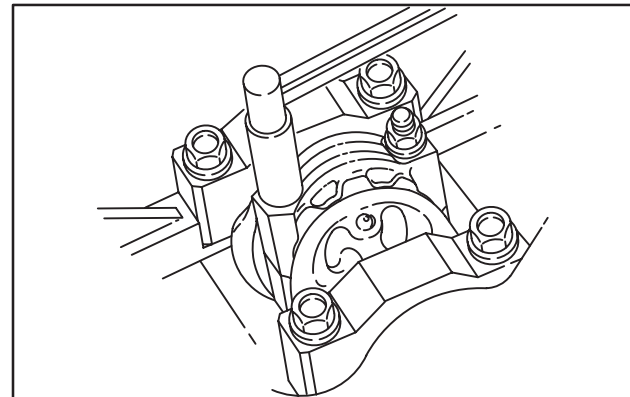

Fig. 8 – Torque Rod Cap
2. Assemble connecting rod cap with bearing and torque to 34.0 Nm (300 in. lbs.), Fig. 8.